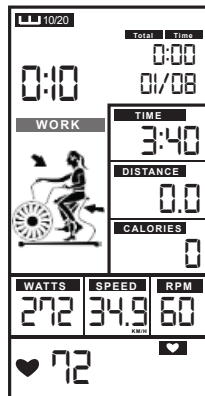

Figure 25
- 3 Cycle time counts down from 20 to 0 and **WORK** flashes once per second . Meantime windows displays rotation animation and count down from 4 minutes. Then **TOTAL TIME, DISTANCE, CALORIES, WATTS, SPEED & RPM** start calculating, counting displays '01/08'(Figure 25).